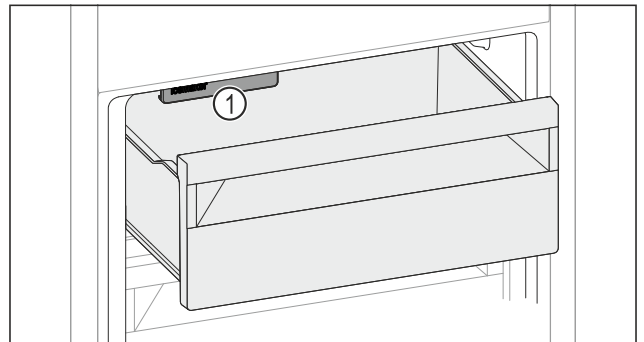

Fig. 140
- Watch out for the IceMaker Fig. 140 (1).